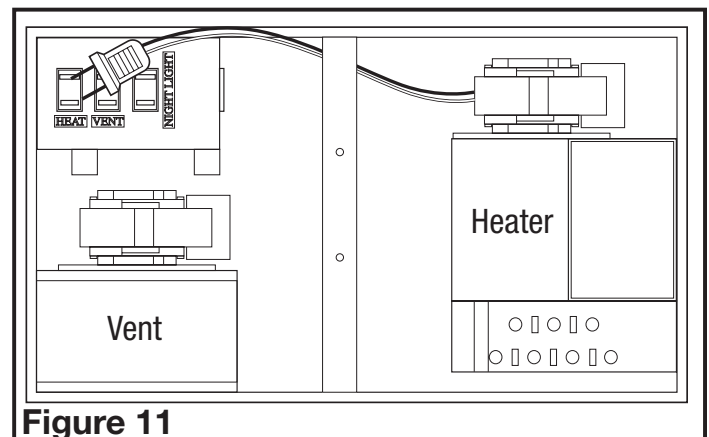
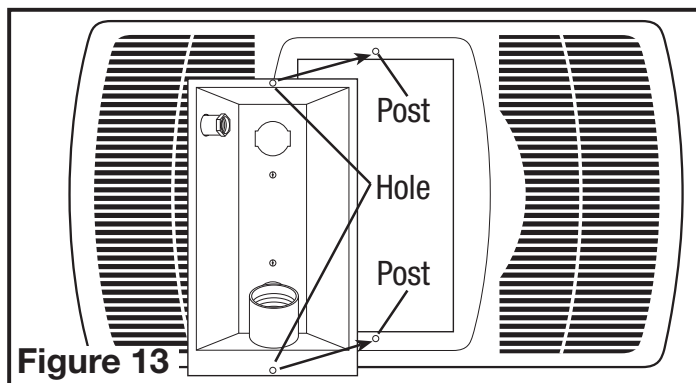

Figure 11
Figure 13
1. Insert the plug from the heating unit into the receptacle marked "HEAT", and the plug from the fan into the receptacle marked "VENT" (**Figure 11**).
- Install light reflector into grill by lining up the posts on grill with the holes in light reflector (**Figure 13**). Raise light reflector and grill up to housing and insert plug from light into receptacle marked "LIGHT" (located on the side of the wire compartment) and insert plug from night light into receptacle marked "NIGHT LIGHT" (**Figure 11**).